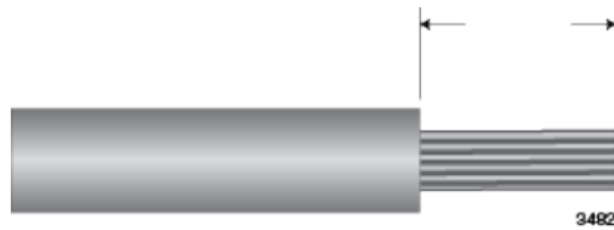

Figure 55. Stripped Wire
4. With a 14-gauge wire-stripping tool, strip the three wires in the tray cable coming from the DC input power source to 8mm 1mm (0.31 in., 0.039 in.), as shown in Figure 55 on page 113.